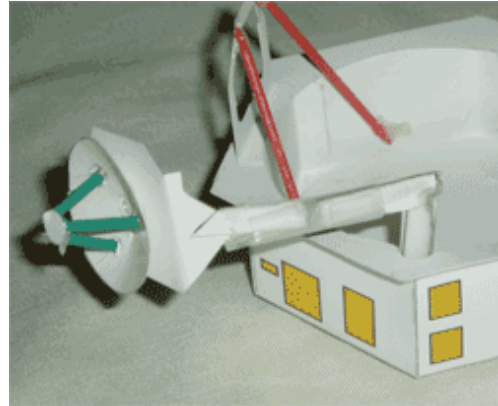

Figure 5
32. Cut the sharp tips off a tooth pick. Cut the tooth pick into three equal length pieces about 1/2 inch long each. Using a glue gun or plastic cement (that dries quickly) glue the ends of the three tooth picks to the three dots on the antenna dish part 21 and then glue the three legs to a hole punch to form a tripod. Set aside for the cement to harden. See Figure 5.
36. Cut out part 20. Using a glue gun, glue the antenna dish part 21 to the front of the HGA back panel part 20, that is glue it to the side without any printing. See Figure 5.
37. Fill the end of the antenna boom F with glue from the glue gun and slip the folded tab on part 22 into the glue in the antenna boom end. See Figure 5.